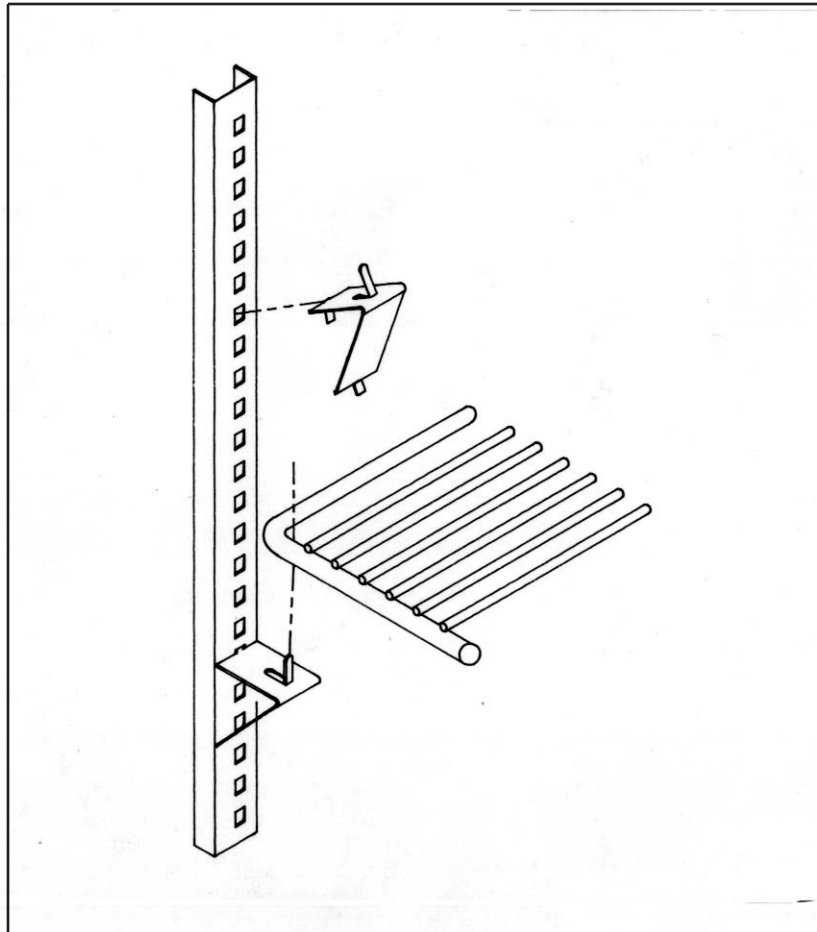
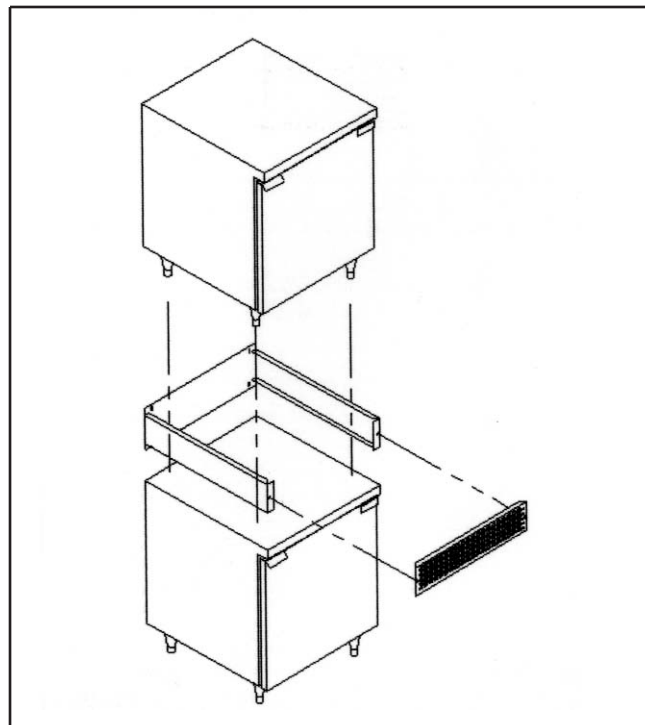

FIGURE 9
FIGURE 10
In addition to the optional heavy-duty pilaster and clip as shown in figure 9, all models are available with an overhead or double-overhead shelf. Models can even be stacked with a heavy duty stacking collar adapter kit as shown in figure 10. Please consult the price list for additional interior and exterior options and accessories available from the factory for your model.
All SW27, SWF27, SW48, SWF48 solid top models can be stacked one on top of the other with the use of a heavy duty, stainless steel stacking collar as shown in figure 10. When stacking a refrigerator and freezer, it is always best to place the freezer model on the bottom for maximum efficiency. The front grill which is attached to the stacking collar body is attached with easily removable thumbscrews and should be removed periodically for cleaning. The front grill should always be clean and clear of debris and never blocked.
4. Install stacking collar as shown in figure 10, making sure all rear screw hole slots line up on both top and bottom models where screws were removed from in step #2. If screw hole slots do not line up (left to right) with screw holes then the stacking collar has been mounted upside down. Remove and re-install correctly.